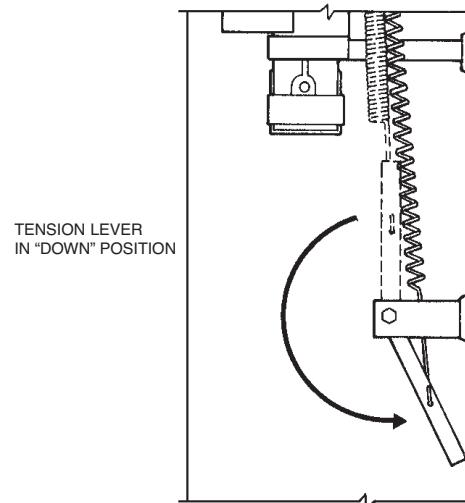

FIGURE 6
- ▶ 11. Make certain that each tank is filled with 1.5 (5.8 L) or 3.0 (11.6 L) gallons of only ANSULEX Low pH Liquid Fire Suppressant. Fill level to be ONLY to the level indicated in the "Installation" section. See Page 5-2.1, Figure 6, for detailed filling tolerances.
- 21. Lower tension lever to "DOWN" position. See Figure 6.